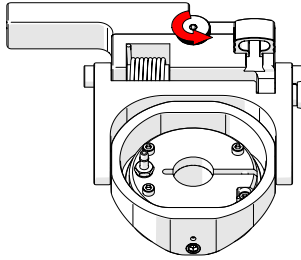

Fig. 136 - Loosen knob
2. Rotate the probe holder adjustment knob (*Fig. 136*).